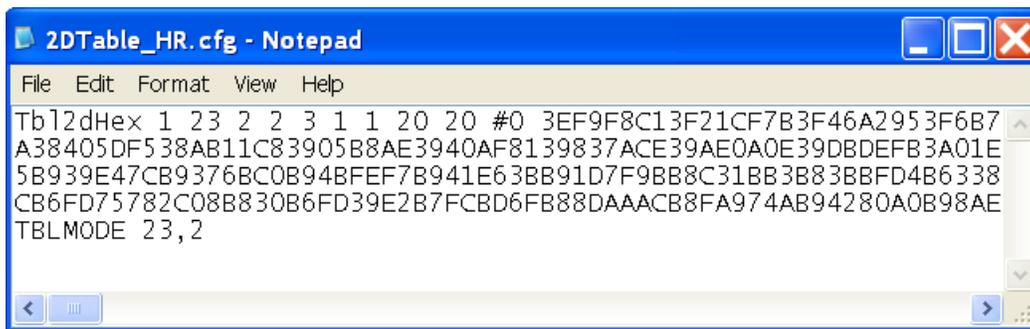

Figure 14: MR calibrated configuration file for the Rotator
1. Open the new MR calibrated *.cfg file located under \\QdPpms\Tools. (Figure 14)